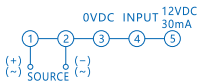
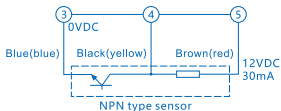
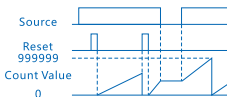

Figure 3 Wiring Diagram
Figure 5 Sensor Input Wiring Diagram
Figure 6 Working Sequence Diagram
3.2 Wiring diagram: see Figure 3~ Figure 5, working sequence diagram: see Figure 6.